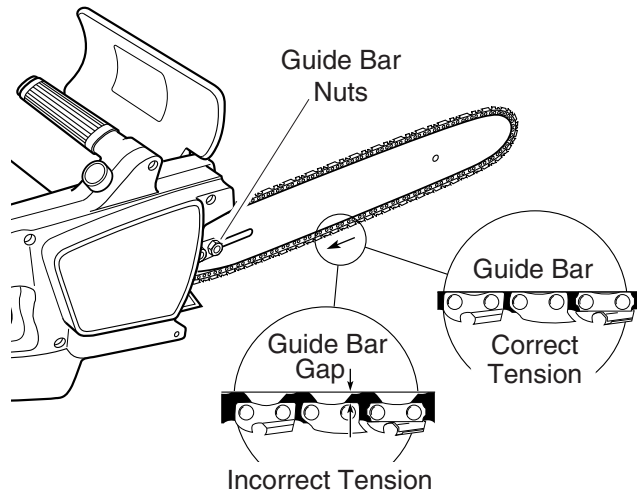

Figure 6 - Saw Chain Adjustment
*Note:* There should be no gap between side links of chain and bottom of guide bar (see Figure 6).